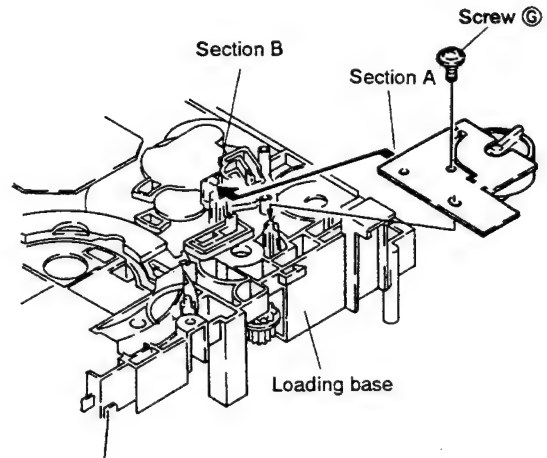

Fig. 2-10
- (3) As shown in Fig. 2-10, after turning over the loading base, insert section A into the section B as the arrow shows, and fix with the screw ③.